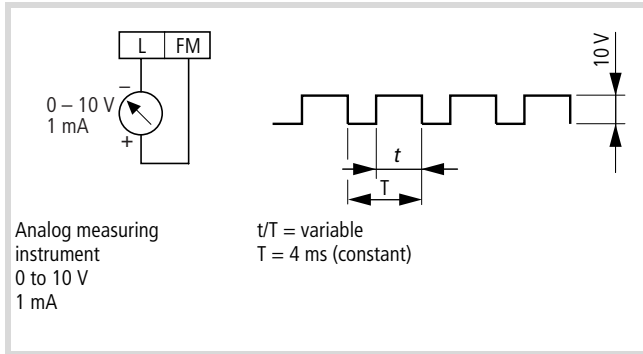
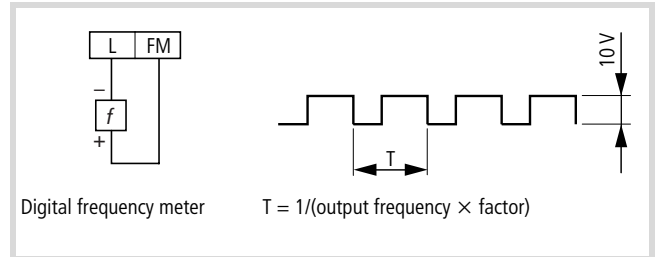

Figure 46: Connection of analog measuring instrument
Figure 48: Digital frequency meter connection
The FM terminal provides the variables listed in the table below in the form of a pulse-width modulated (PWM) signal (→ fig. 46). An exception is the output frequency to which the value "03" is assigned which is output as a frequency modulated (FM) signal (→ fig. 48).